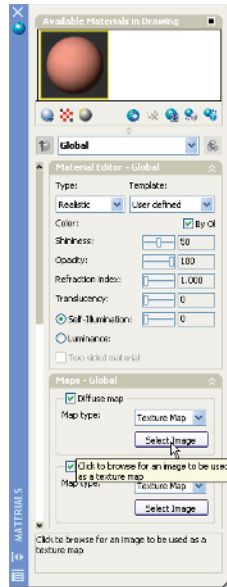

Fig. 16.17 The **MATERIALS** palette
1. Click the **Materials...** tool icon in the **Materials** control panel. The **MATERIALS** palette appears (Fig. 16.17).